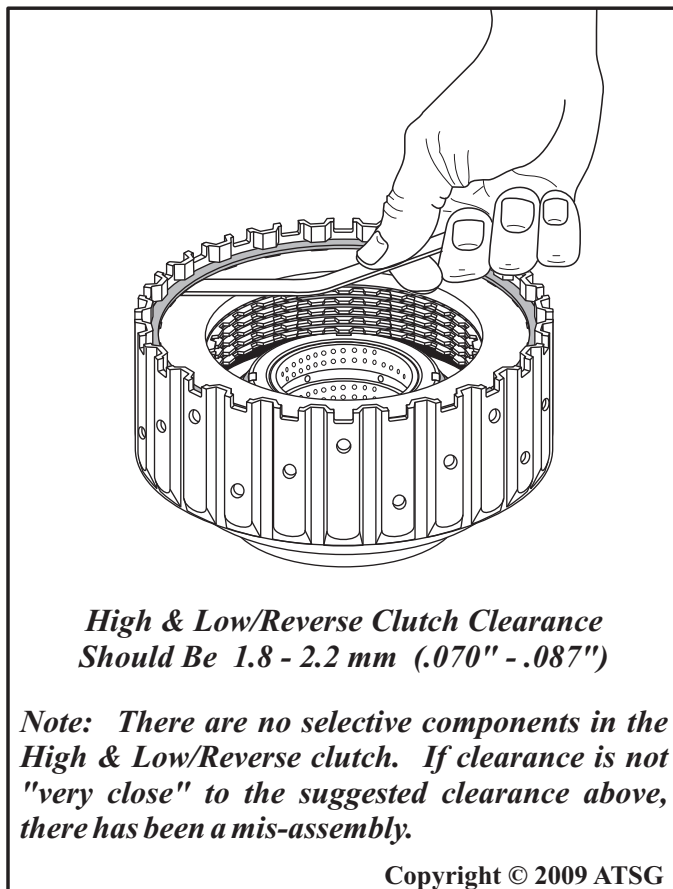

Figure 136
12. Measure high and low/reverse clutch clearance using a feeler gage between the backing plate and snap ring, as shown in Figure 136.